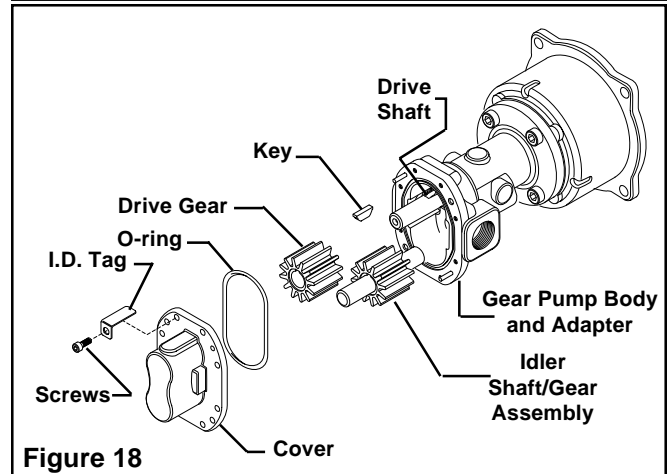

Figure 18
5. Insert the Key into the Drive Shaft; then, slide the Drive Gear onto the Drive Shaft (See Figure 18)
6. Slide the Idler Shaft/Gear Assembly into the Bushing located in the Gear Pump Body and Adapter (See Figure 18).
7. Install a new O-ring into the o-ring groove of the Gear Pump Body and Adapter (See Figure 18)
8. Place the Cover on the Gear Pump Body and Adapter and secure it to the Gear Pump Body and Adapter using the six Screws (See Figure 18).